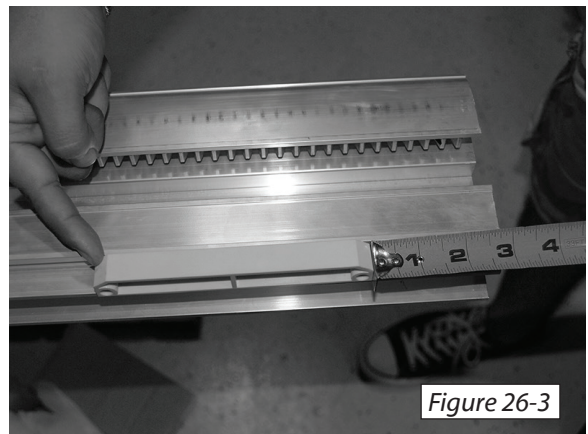

Figure 26-3
3. Position the end of the cam at 2-3/4" from the top of the rail. Secure the limit cams with (2) 10-24 screws and square nuts (provided). *[Figure 26-3]*